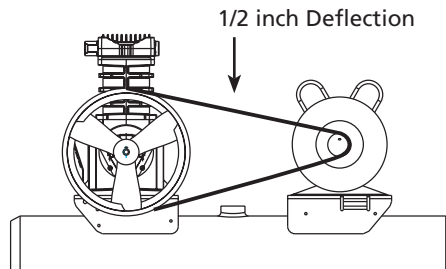

Figure 6
belt between the motor pulley and the pump will deflect the belt about 1/2 inch (See Figure 6).
4. Adjust flywheel or motor pulley so that the belt runs straight (See Figure 6).